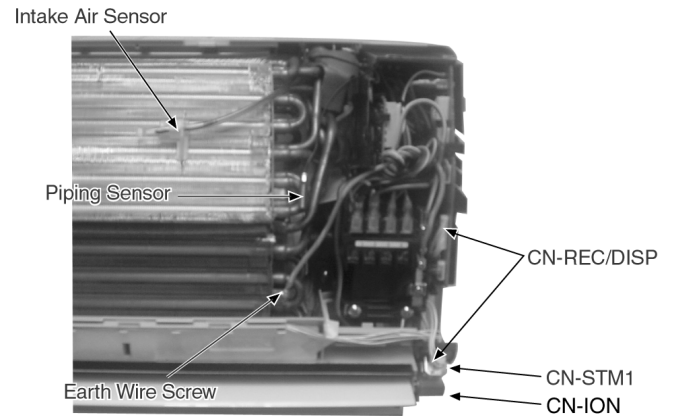

Fig. 5
- a. Release the Earth Wire screw. (Fig. 5)
- b. Release the Intake Air Sensor. (Fig. 5)
- c. Release the Piping Sensor. (Fig. 5)
- d. Release the CN-REC/DISP connectors. (Fig. 5)
- e. Release the CN-STM1 connector. (Fig. 5)
- f. Release the CN-ION connector. (Fig. 5)